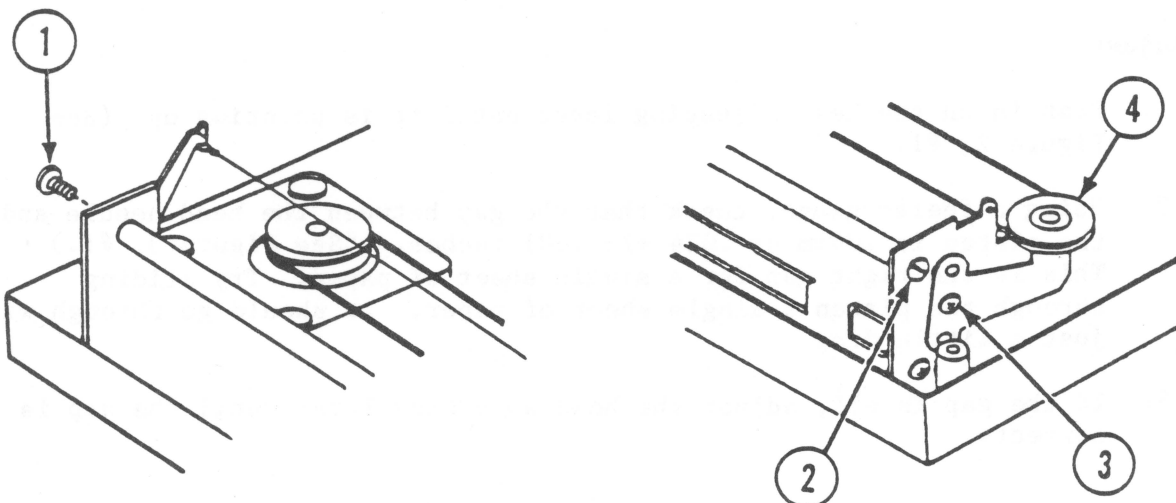

FIGURE 5
7. Remove the screw on the left end of the carrier guide shaft (See Figure 5, #1) and set aside the ribbon wire arm.
8. Remove the screw on the right end of the shaft. (See Figure 5, #2.)